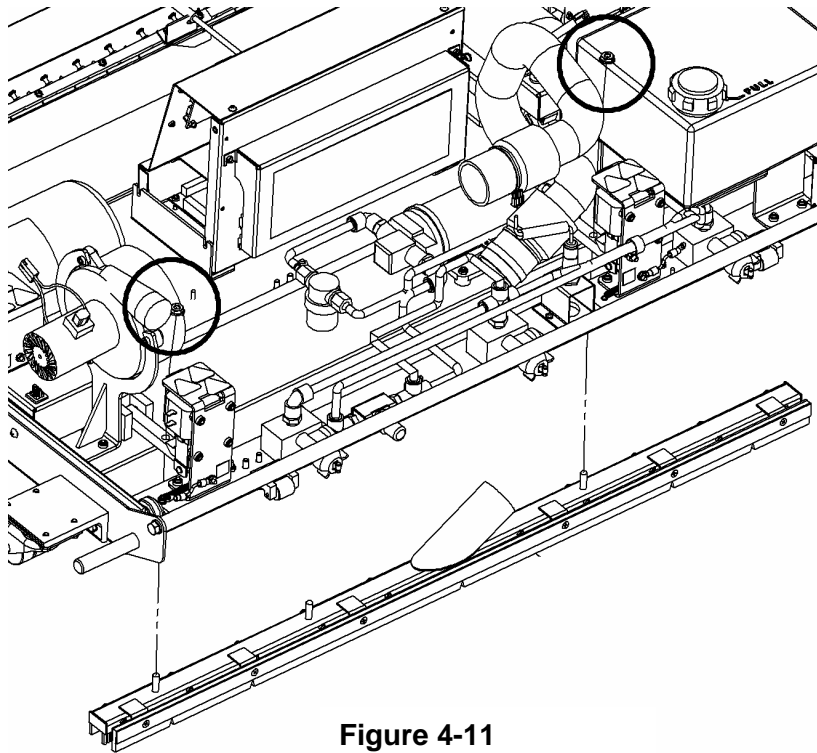

Figure 4-11
3. Remove the two 5/16 nuts to release the vacuum head from the machine, as shown in Figure 4-11, and remove the vacuum head from the **bottom** of the machine.